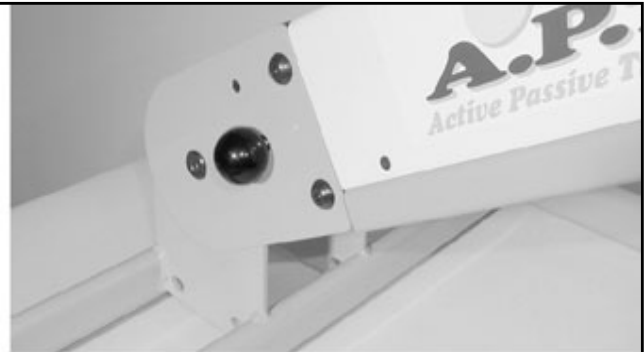

Figure 6 - angle release knob
Step 2: Loosen the angle-securing knob (Figure 5-1) and adjust the **APT-1** to the required angle. To increase the angle, lift the body of the **APT-1**, allow it to “click” into one of the operating positions and retighten the securing knob. To decrease the angle, pull the angle release knob (Figure 6), lower the body of the **APT-1**, allow it to “click” into another operating position and tighten the securing knob.